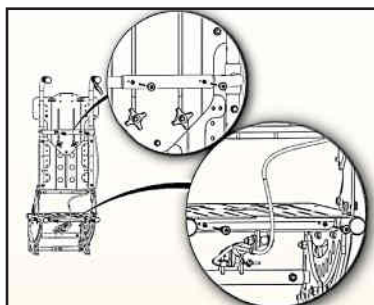

Fig. 41
7. On the back of the chair, remove the adjustment bolts on the back cross tube and lower cross tube. Fig. 41